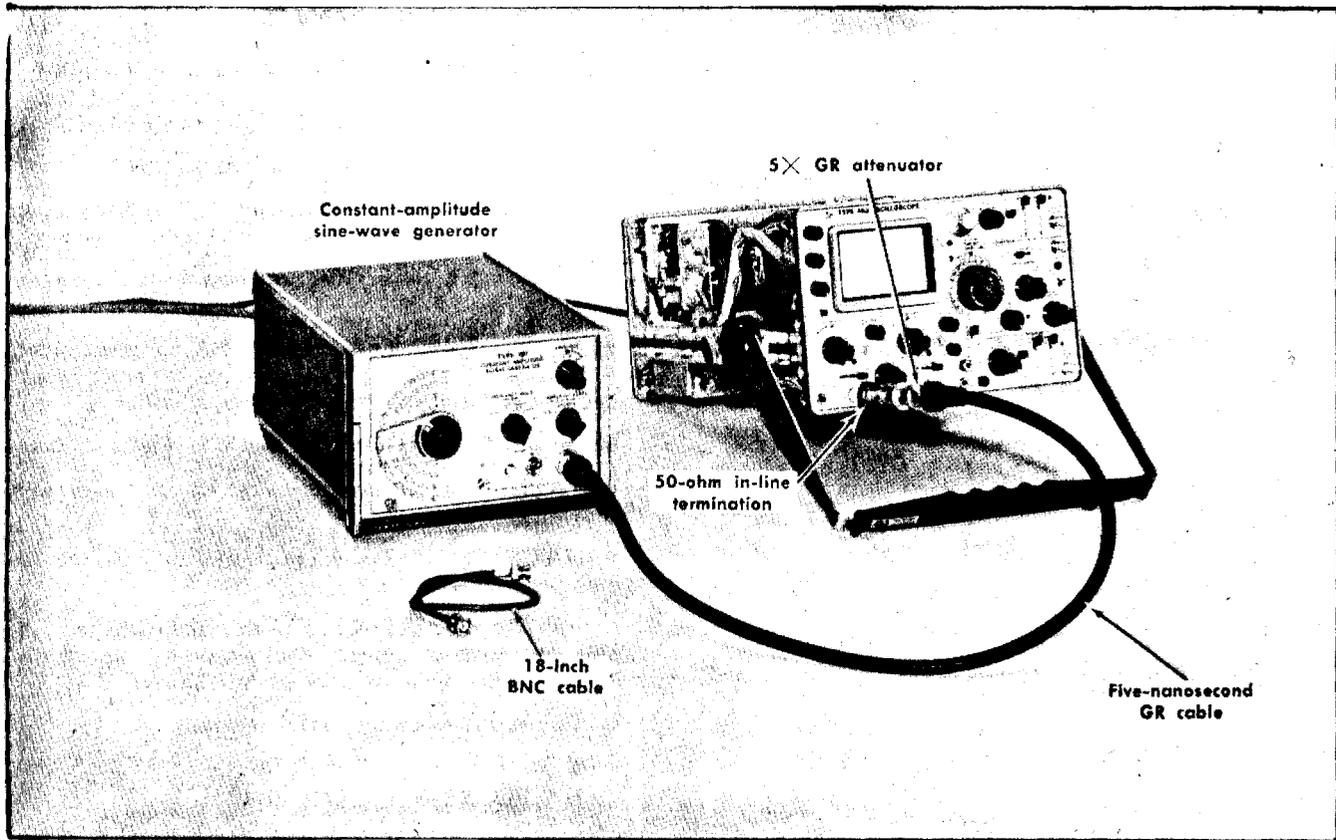

Fig. 6-23. Initial test equipment setup for steps 25 through 27.
- a. Test equipment setup is shown in Fig. 6-23.